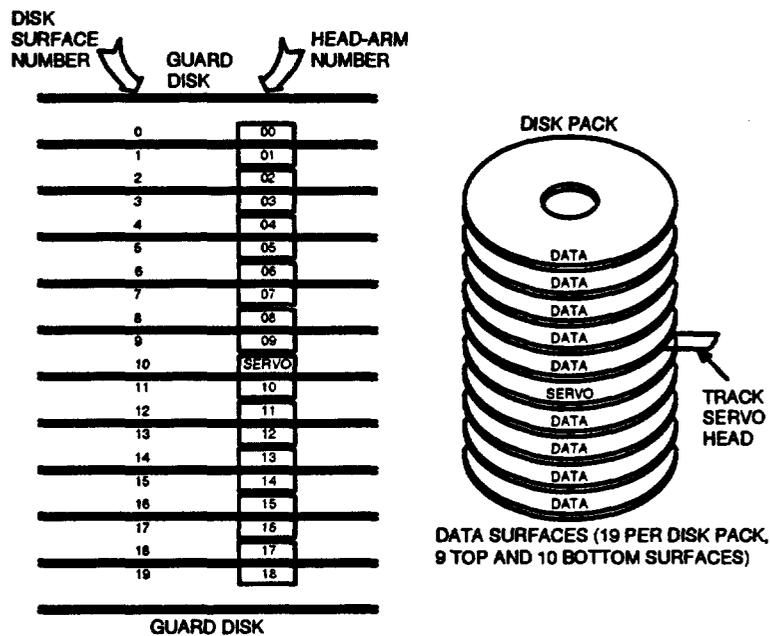

Figure 5. Disk Pack Layout
2.09 The KS-22072, L1 and L2 disk drives have storage capacities of 300 megabytes (unformatted). After formatting, a disk drive provides approximately 253 million bytes of storage capacity. The disk packs used in the drives consist of 12 recording disks. The top and bottom disks are used for protection only. The remaining 10 disks provide 19 data surfaces and one prerecorded servo surface. See Figure 5 for an illustration of the disk pack.